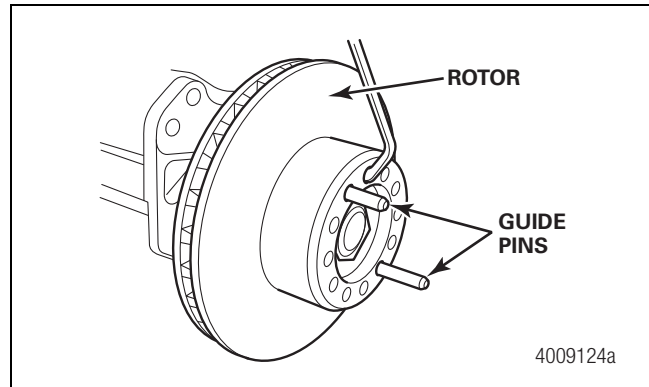

Figure 6.19
9. Install the rotor onto the unitized hub bearing. Figure 6.19.